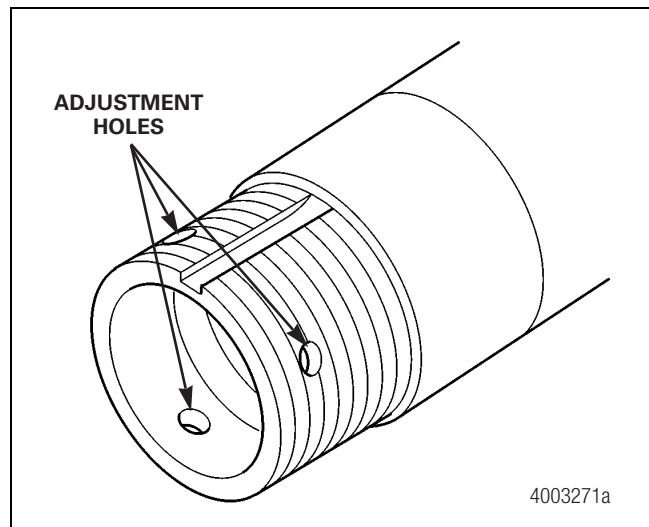

Figure 9.4
- The spindle, consisting of a “TP” style axle drilled with three adjustment holes. Figure 9.4.